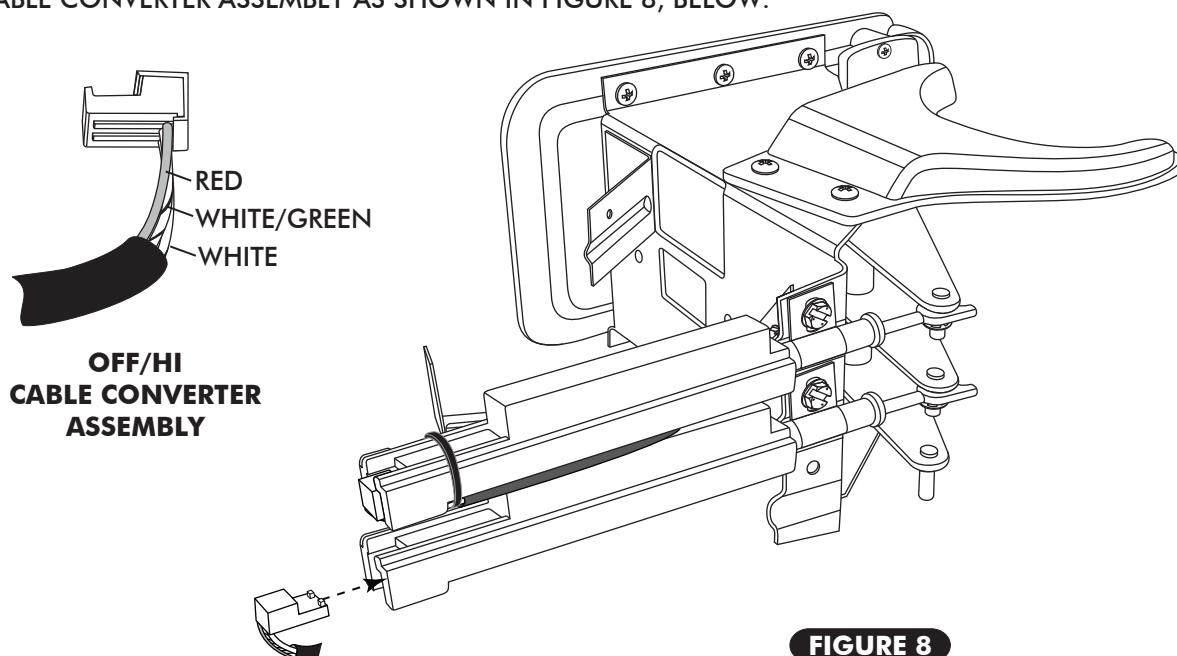

FIGURE 8
- LOCATE THE CONTROL PANEL WIRE HARNESS. PLUG THE CORRESPONDING CONNECTOR INTO THE CORRECT CABLE CONVERTER ASSEMBLY AS SHOWN IN FIGURE 8, BELOW.